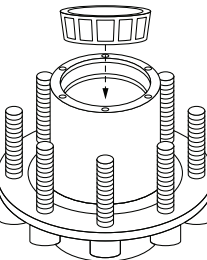

Figure 7
- 11.) Lubricate the outer bearing cone with the proper wheel end lubricant and install it into the hub assembly (see Figure 7).